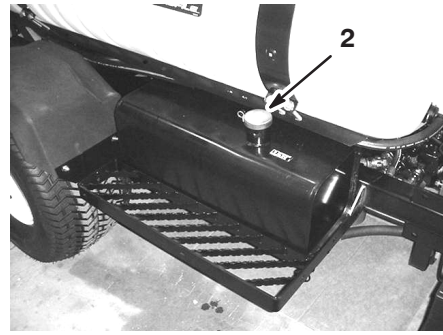

Figure 7
3. Clean the area around the hydraulic oil tank cap and remove it (Fig. 7).